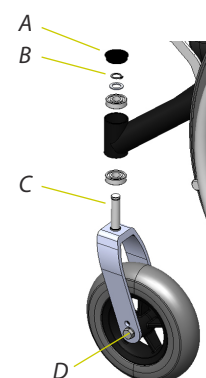

Fig 28
The castor fork is changed by prying off the cover plug (A, fig 28) and then removing the retaining ring (B) that secures the axle (C). Pull out the fork and replace with a new part.